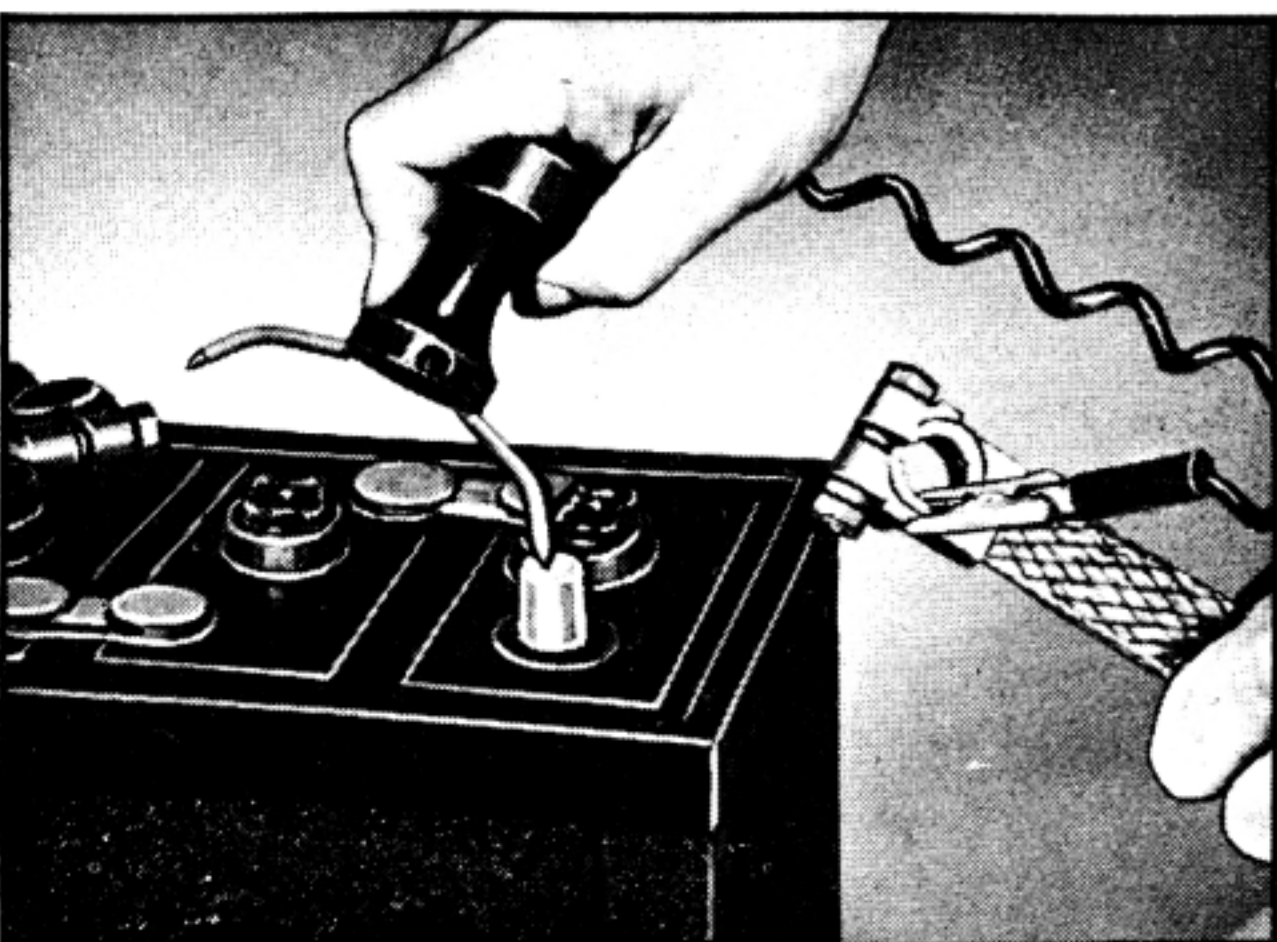

Figure 9: If any reading is evident, short exists.
4. Touch instrument prod to battery post from which ground cable was removed. (Red prod if post is positive, etc.) See Figure 9.